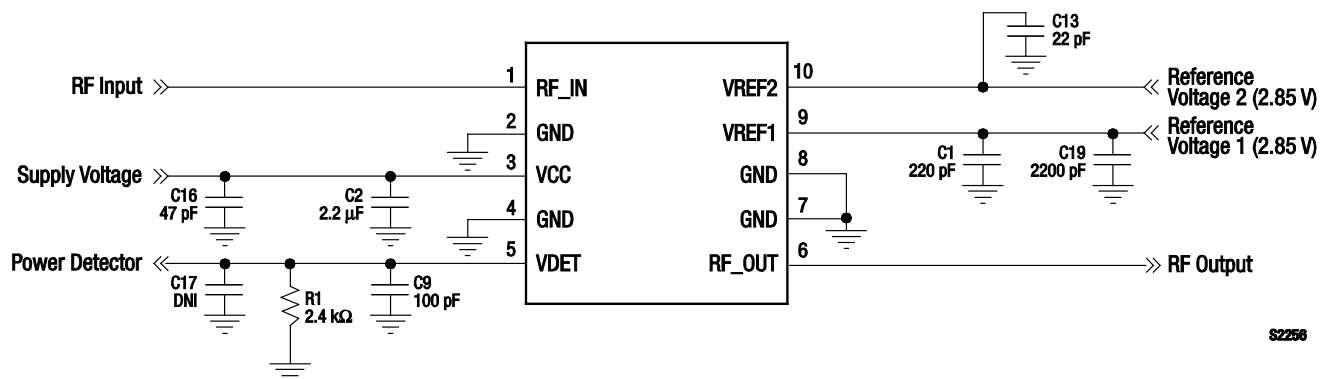

Figure 13. SKY65174-21 Application Schematic for Both 3.3 V and 5 V Operation
The SKY65174-21 Evaluation Board is used to test the performance of the SKY65174-21 PAM. Application schematic diagrams are provided in Figures 13 (for applications using phase and amplitude tracking) and 14 (for applications that do not use amplitude tracking). An assembly drawing for the Evaluation Board is shown in Figure 15.
3. Bypass capacitors should be used on the DC supply line (VCC). Refer to the schematic drawings in Figures 13 and 14 for further details.